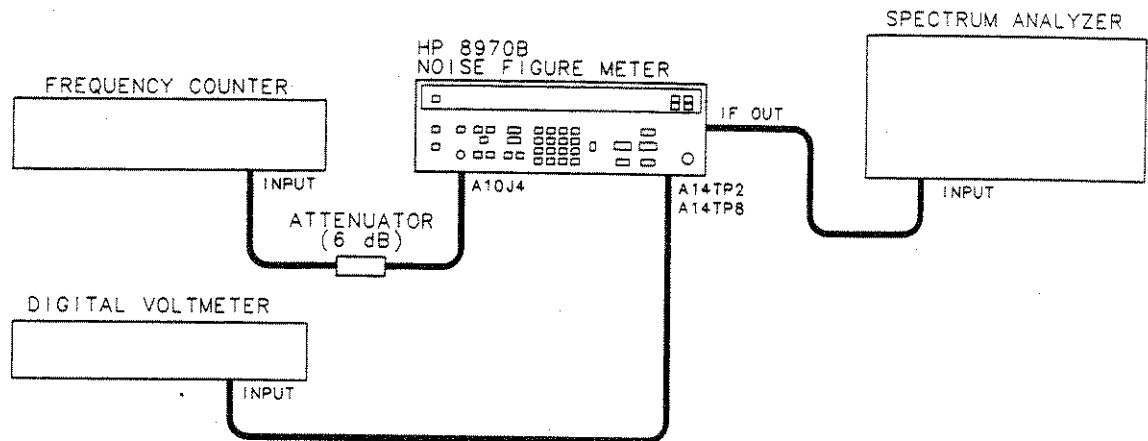

Figure 5-8. Frequency Cal RF Detector and First LO Offset Adjustment Setup
3. Connect the equipment as shown in Figure 5-8. Connect the voltmeter high input to FREQ CAL DET IN, A14TP8, and the low input to GND, A14TP2.